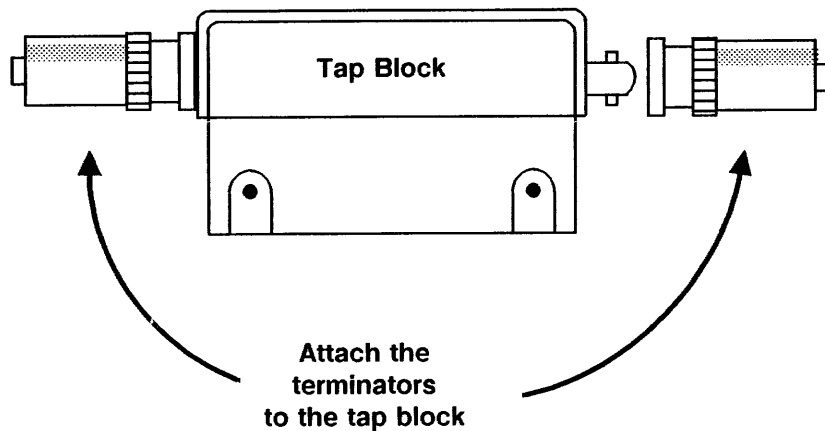

Figure 5. Transceiver Terminator Tool - IEEE 802.3
- a. Remove the transceiver from the Ethernet tap block. Make a transceiver terminator tool (Figure 5), consisting of two BNC terminators (113P03405) and a BNC tap block (113K00470). Connect the transceiver terminator tool to the transceiver and reconnect the drop cable to the transceiver.